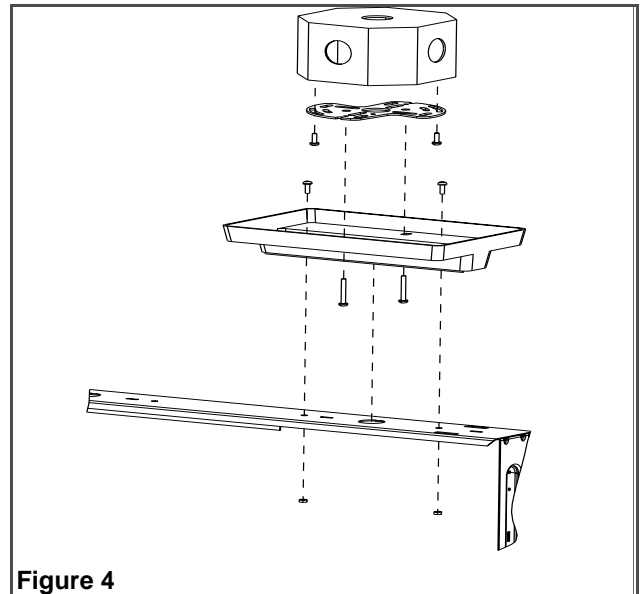

Figure 4
- e. Fasten the canopy to the exit using #8-32 x 3/8" screws and keps nuts provided (see fig. 4).